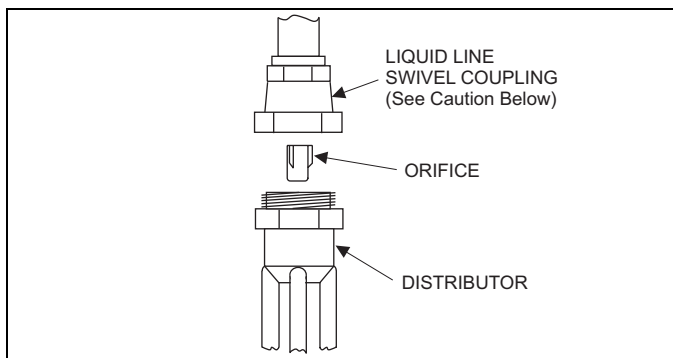

FIGURE 8: Orifice Installation
All non-TXV coils will have an orifice installed in the fitting between the liquid line connection and distributor. See Figure 8. The factory installed orifice is identified on the unit data plate. Also it is listed in Table 2.
2. Remove the new orifice from the packet and verify that it is the correct number required. Install this orifice with the rounded end toward the coil and the flat end outward per Figure 8.